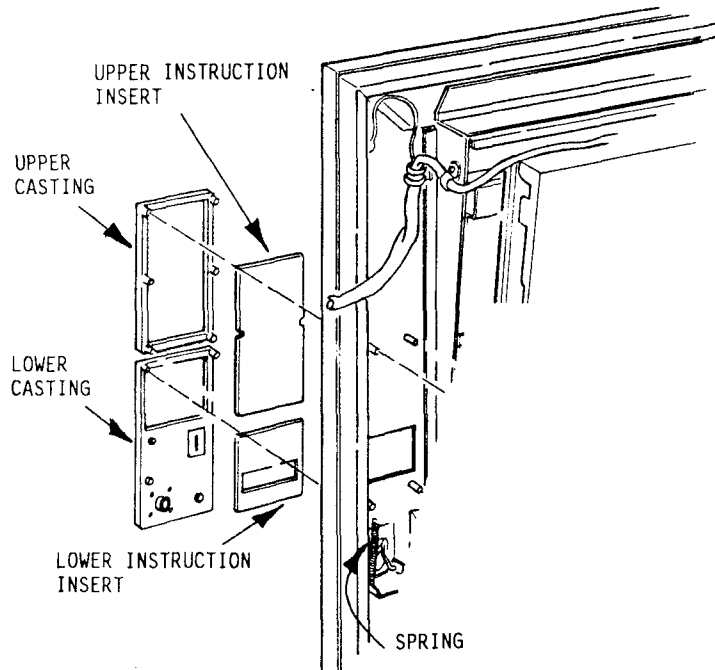

FIGURE 2
1. INSTALLING THE NEW INSTRUCTION INSERTS (See Figure 2)